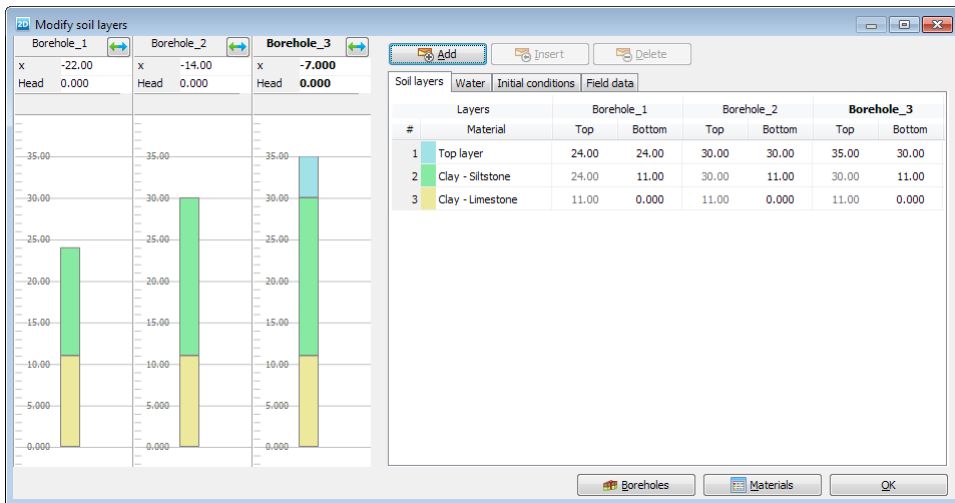

Figure 6.2 Soil layer distribution
- Specify the soil layer distribution as shown in Figure 6.2.
- Create soil material data sets according to Table 6.1 and assign them to the corresponding layers (Figure 6.2).